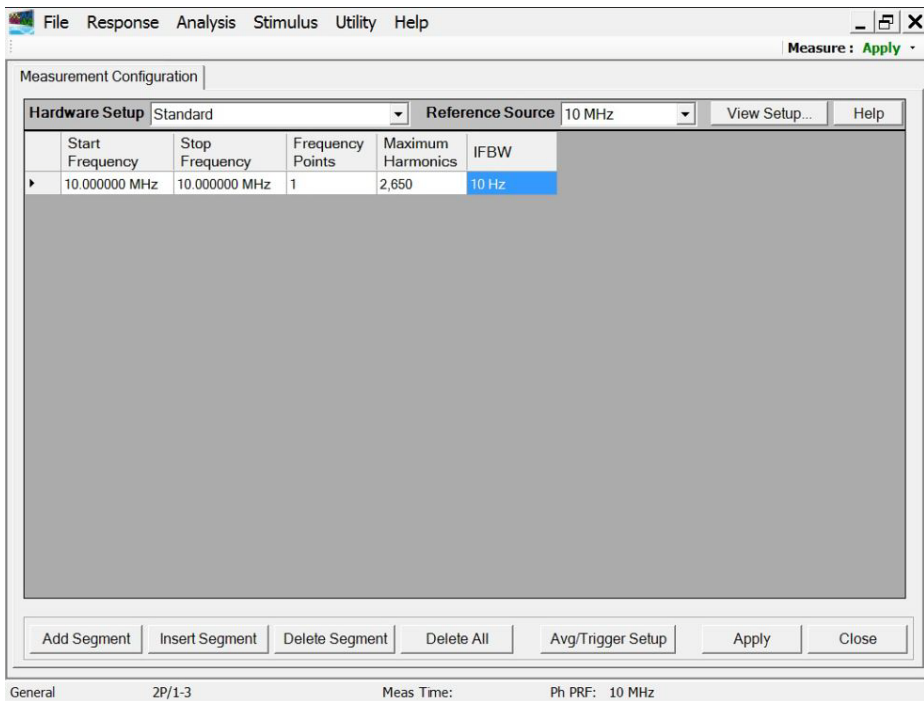

Figure 4-3 NVNA's main menu
- 4 Click **Response** and select **Couple Segment** from the Keysight NVNA's main menu as shown in Figure 4-3.